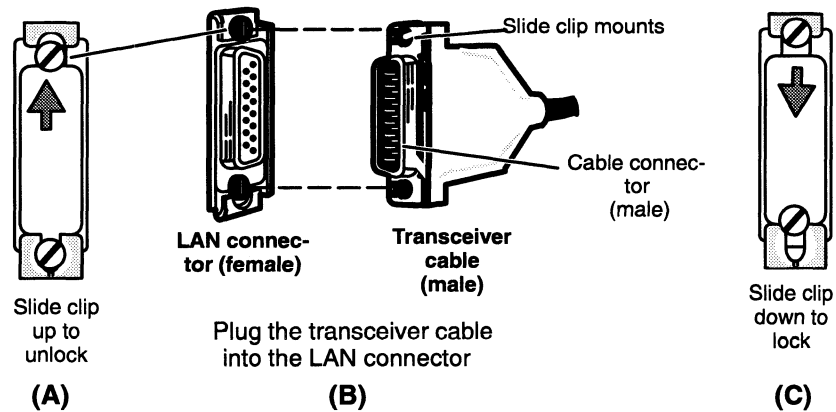

Figure 1–12 Attaching and securing LAN transceiver cables
3. Once the cable and clip mounts are secured to the connector, slide the clip (using a screwdriver or comparable tool, if necessary) to lock the cable in place as shown in Figure 1–12(C).